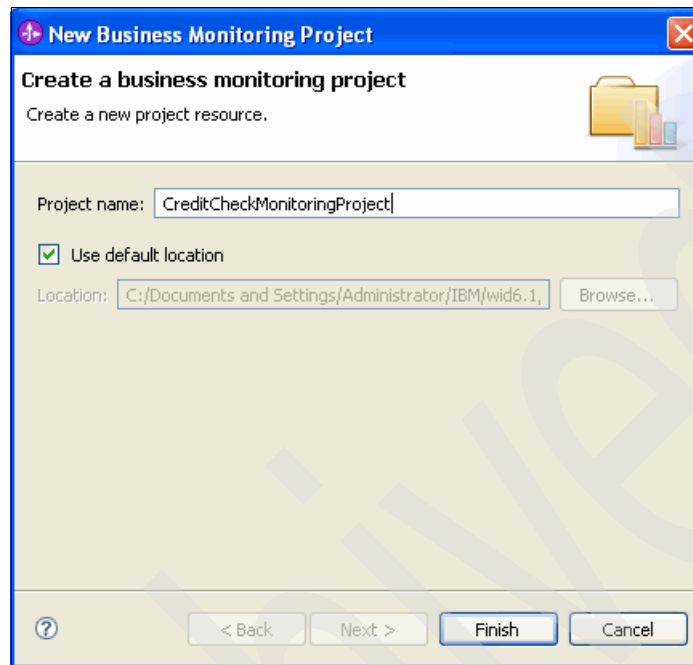

Figure 10-23 New Business Monitoring Project window
4. In the New Business Monitoring Project window (Figure 10-23), for Project name, type CreditCheckMonitoringProject. Click **Finish**.